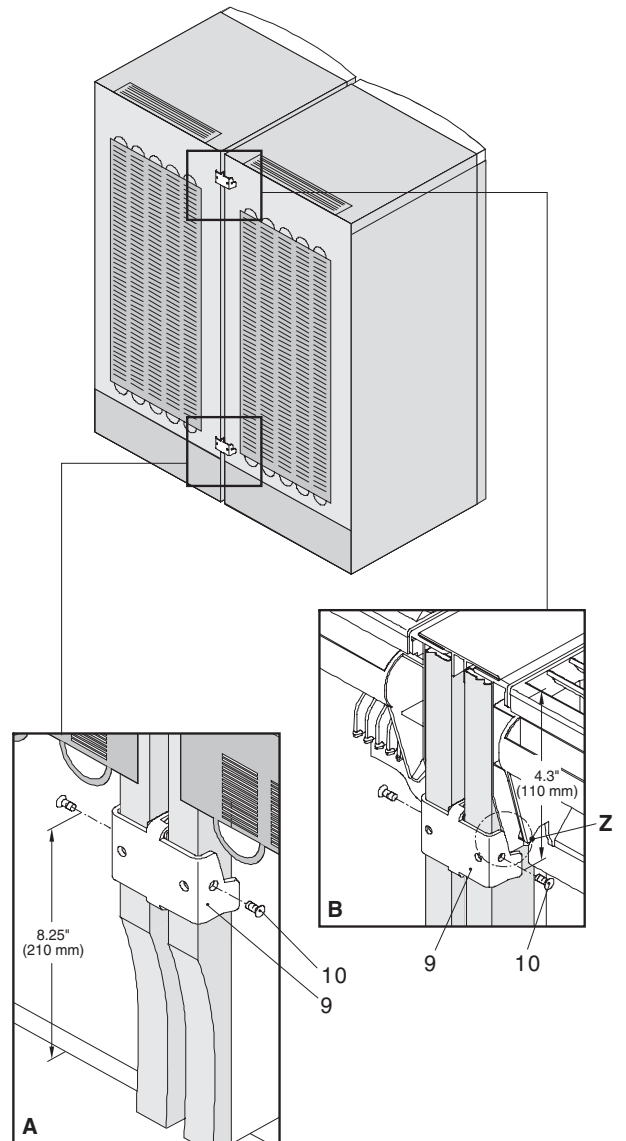

Figure 27
6. Attach the wide attachment brackets (**Fig. 27, 9**) at the top and bottom of the back of the appliance.
7. Slide the top bracket up as far as it will go, (**Fig. 27 B, Z**). DO NOT tighten the screws.
10. Screw the wide attachment brackets (**Fig. 27 A-B, 9**) on the back of the appliances firmly into place with the screws provided (**Fig. 27 A-B, 10**).